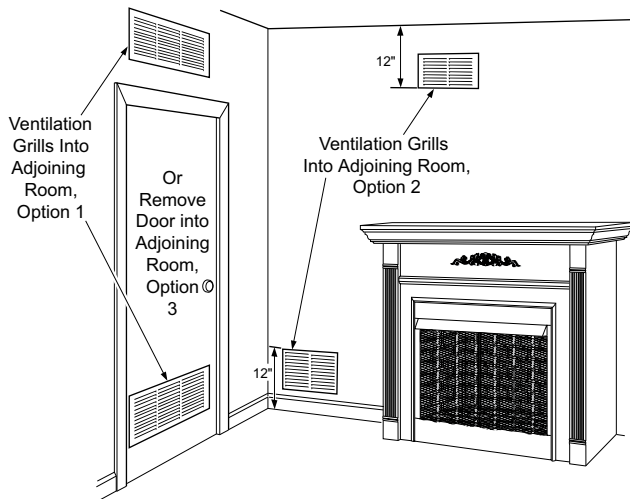

Figure 4 - Ventilation Air from Inside Building
This fresh air would come from an adjoining unconfined space. When ventilating to an adjoining unconfined space, you must provide two permanent openings: one within 12" of the ceiling and one within 12" of the floor on the wall connecting the two spaces (see options 1 and 2, Figure 4). You can also remove door into adjoining room (see option 3, Figure 4). Follow the ***National Fuel Gas Code, ANSI Z223.1/NFPA 54, Air for Combustion and Ventilation*** for required size of ventilation grills or ducts.
- where curtains, furniture, clothing, or other flammable objects are less than 36" from front or 42" from top of firebox; for side clearances see Figure 4, page 8
Example: The face of a mantel, bookshelf, etc. is made of combustible material and protrudes 3 1/2" from the wall. This combustible material must be 4" from the side of the fireplace cabinet (see Figure 4, page 8).